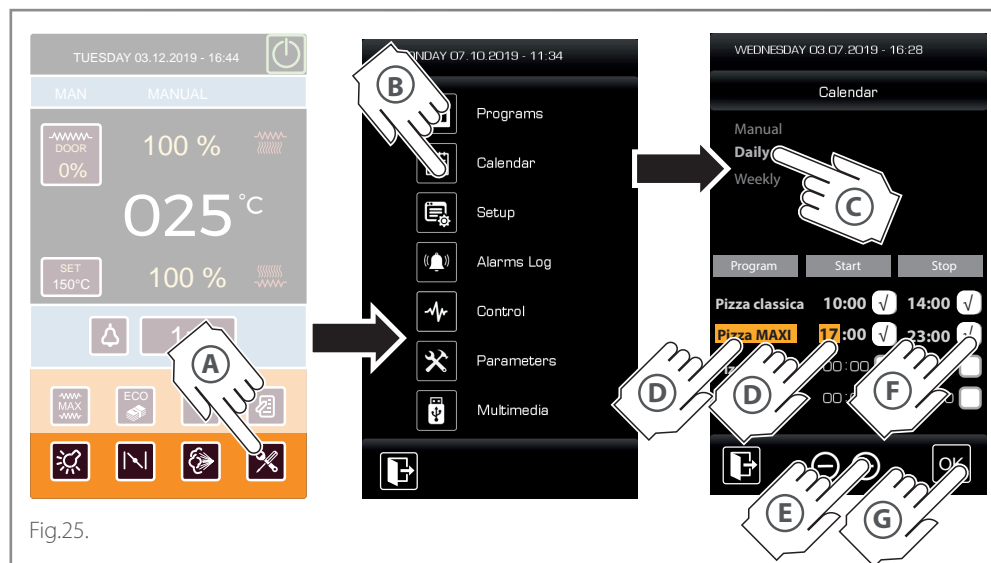
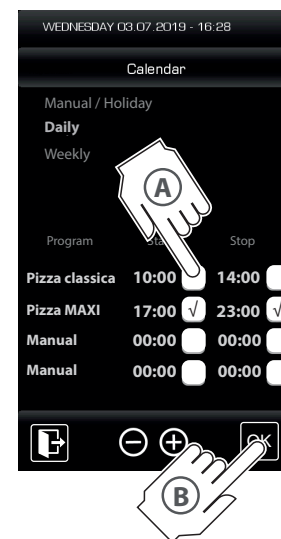

Fig.25.
Fig.26.
► Fig.25.
- (A) (B) Access the "Programmed switch-on (calendar)" screen.
- (C) Select **"DAILY"** mode: the wording is highlighted in orange;
- (D) Touch the field you want to set (e.g. **program name, hours/minutes to switch-on, hours/minutes to switch-off**): the wording is highlighted in orange;
- (E) With buttons (+) and (-) set the desired settings for each field.
- (F) Confirm the times ticking them.
- (G) Save the changes you have made.
► Fig.26.